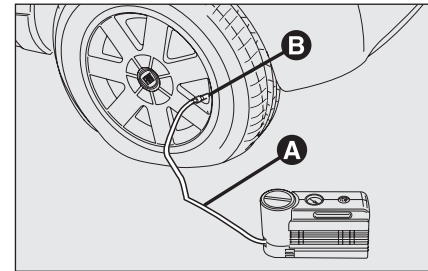

fig. 3
- Pull up the handbrake.** Loosen tyre inflation valve cap, take out the filler hose **A**-fig. 3 and screw the ring nut **B** on the tyre valve;